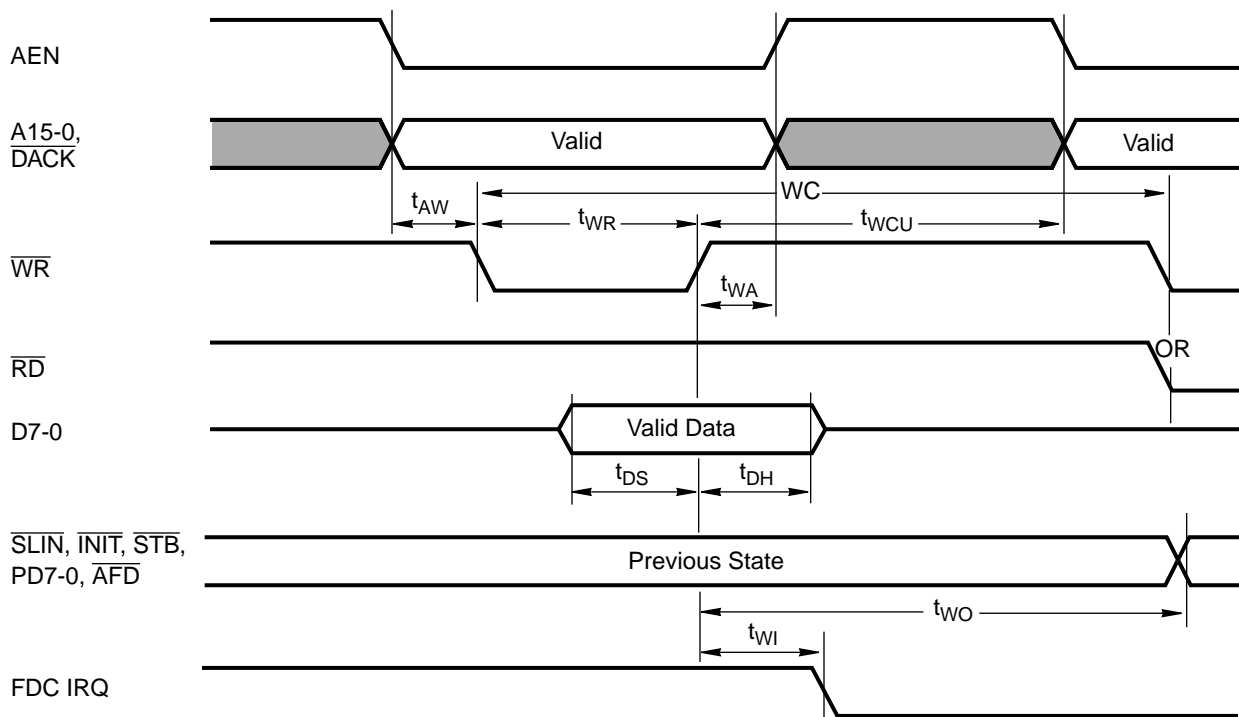

FIGURE 14-4. Microprocessor Write Timing
1. See write cycle timing in FIGURE 14-4 "Microprocessor Write Timing" on page 246.
1. See write cycle timing, FIGURE 14-4 "Microprocessor Write Timing" on page 246.